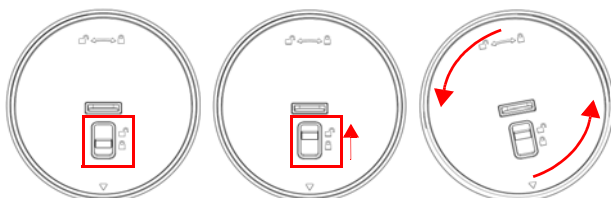

FIG. 54 Remote control - bottom panel (lock/unlock/remove)
2. On the bottom panel, flip the plastic lock to the Unlocked position (FIG. 54):